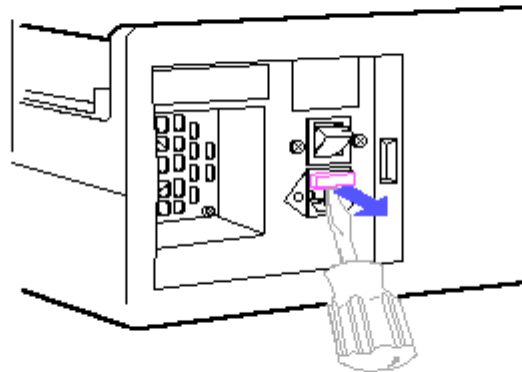

Figure 7.8-2. Prying Out the Fuse Box
2. Insert a flat bladed screwdriver along the bottom edge of the fuse box. Pry outward with enough pressure to force the fuse box out of the casing (Figure 7.8-2).